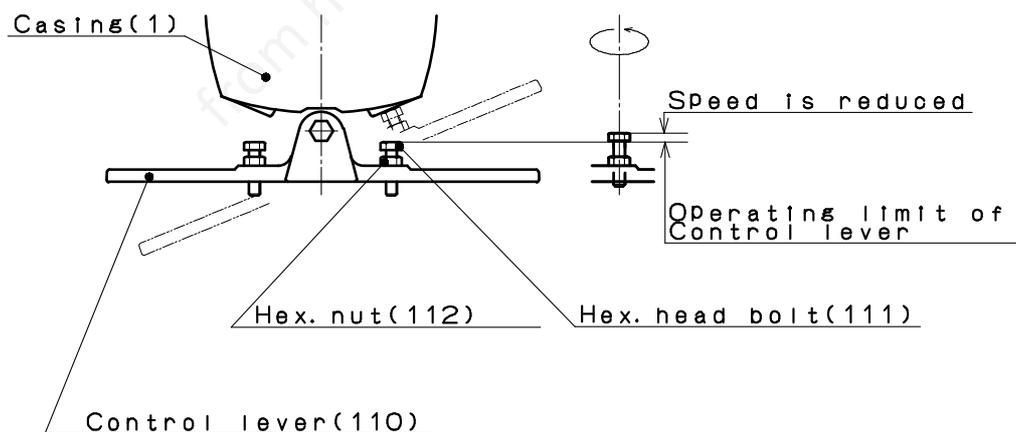

Fig.9
X. Adjustment of Speed and Operating Limit of Control Lever (See Fig. 9)